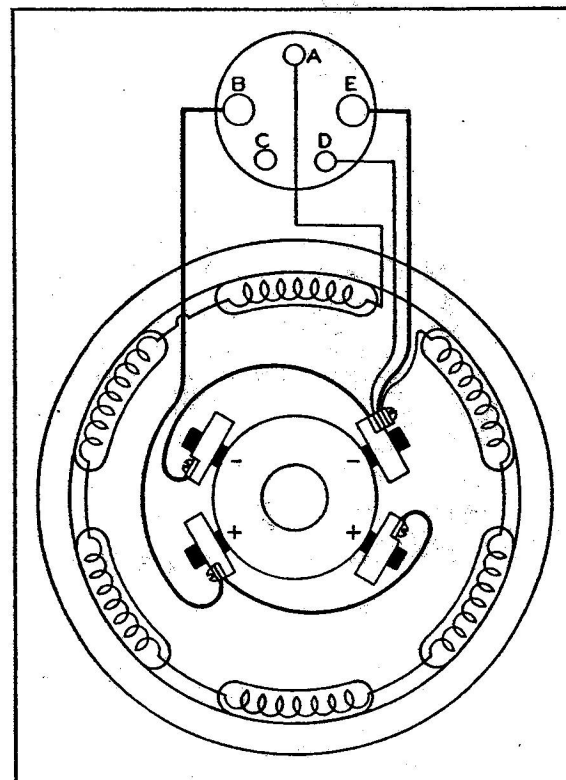

Figure 5-46 Schematic Internal Wiring Diagram - AAF Type M-3 Generator
RE-ASSEMBLY, see Figures 5-46 through 5-49
(c) Pull the leads attached to the receptacle into the front head. Solder the positive field coil assembly lead to the "A" contact of the receptacle. Make certain that all leads to the receptacle are firmly soldered in place. Then attach the receptacle to the front head. Complete the internal wiring connections as shown schematically in Figure 5-46. Make certain all connections are clean and tight.
(e) Pull the leads attached to the receptacle (2) into the front head (1A). Solder the positive field coil assembly lead to the "A" contact of the receptacle. Make certain that all leads to the receptacle are firmly soldered in place. Attach the receptacle to the front head with the screws (3). Complete the internal wiring connections as shown schematically in Figure 5-46. Make certain that all connections are clean and tight.